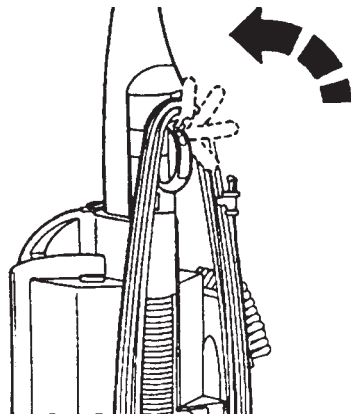

Figure 6a
1. Position the Upper Cord Hook so it points up. (See Figure 6a.)